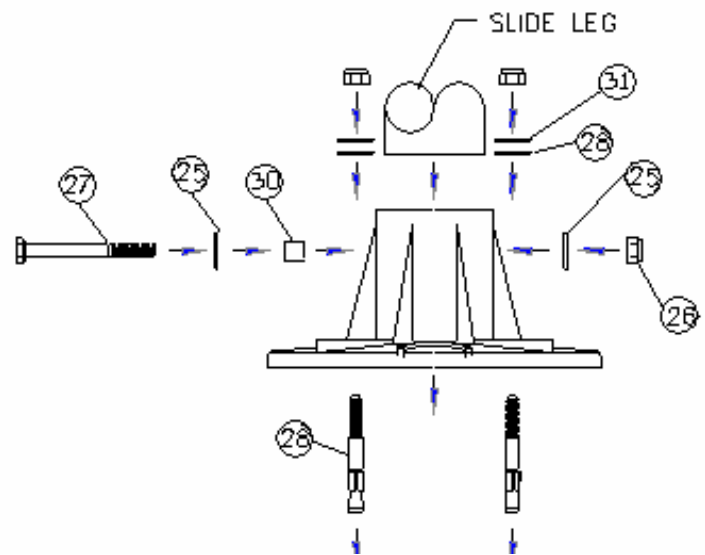

Figure 25
- 3) Using the four holes on each flange as a template (see Figure 25 below), drill four 5/16" holes per flange 1-7/8" deep. CAUTION: Do not drill holes larger than 5/16". Maintain drill hole straight and perpendicular for proper holding strength of anchor stud.
- 8) Drill a 1/4" diameter hole into the slide leg through the 3/8" diameter hole in the flange. Insert the (#30) 3/8" O.D. Aluminum Bushing into the hole in the deck flange and push in until it contacts the slide leg. Now insert the (#27) 1/4"-20UNC x 2-3/4" Hex Head Cap Screws and (#25) 1/4" x 5/8" Flat Washers through the bushing and in about a 1/2" into the hole in the slide leg. With the cap screw in position, drill a 1/4" hole into the slide leg through the 5/16" diameter hole in the opposite side of the deck flange. Take care not to run the drill bit into the 1/4" bolt. Push the cap screw completely through the slide leg. Install the (#25) 1/4" x 5/8" Flat Washers and (#26) 1/4"-20UNC Hex Lock Nuts (see Figure 25).